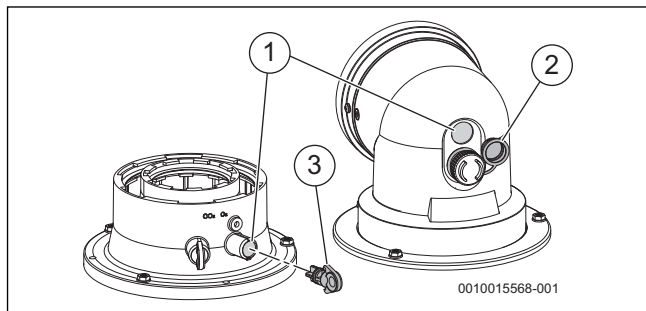

Fig. 67 Flue integrity check test point
- Checking flue integrity, (→ figure 67)